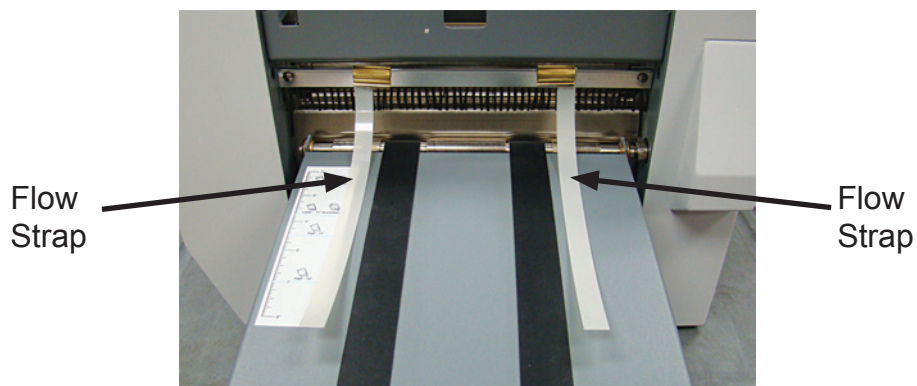

Figure 15
NOTE: Straps should not be placed where they will interfere with the conveyor belts or the weighted out-feed tires, (see Figure 15).
5. Repeat process on other side. Figure 15 shows two straps in place.